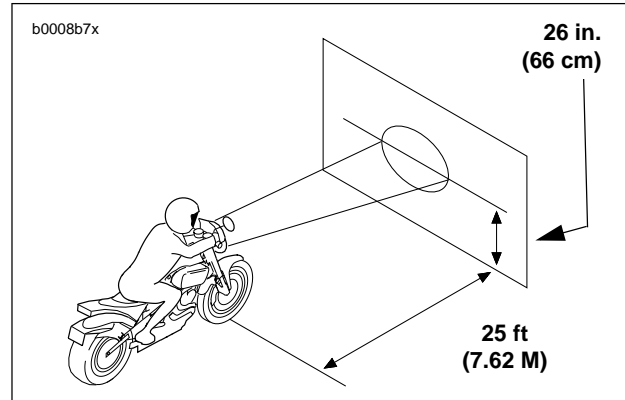

Figure 1-51. Checking Headlamp Alignment
3. See Figure 1-51. Position motorcycle 25 ft (7.62 M) away from a screen or wall. Measure the distance from directly below the front axle to the base of the screen/wall.
2. See Figure 1-51. Tilt headlamp up or down to aim it in relation to the horizontal line. At the same time, turn headlamp right or left to direct light beam straight ahead.